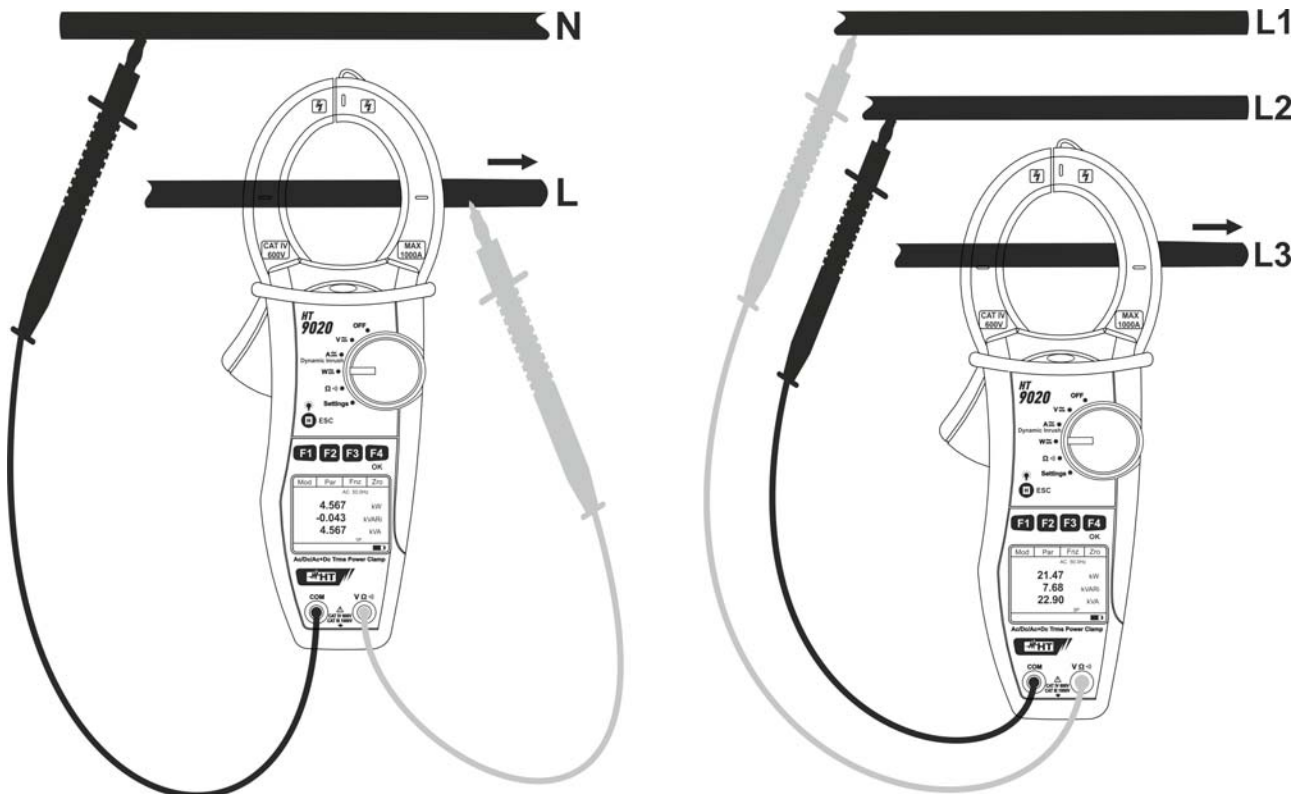

Fig. 12: AC/AC+DC power measure on Single phase and balanced Three phase systems
5. Connect red cable to input lead **VΩ[~]** and black cable to input lead **COM** then perform the connection as indicated in Fig. 12 depending on the type of system under test. Put the phase cable into the clamp jaws respecting the direction of current indicated by the arrow (see Fig. 12). Connect the cable to the middle of the clamp jaws, in order to get accurate measurements. Use the marks as a reference (see Fig. 2)